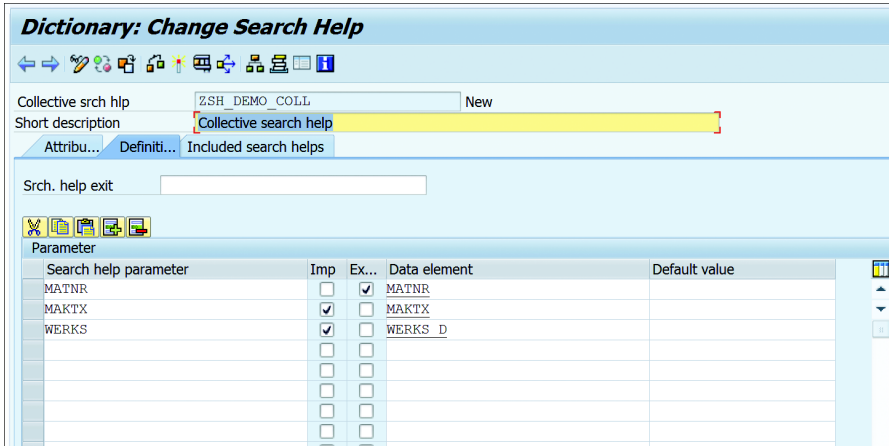

Figure 10.71 Collective Search Help Maintenance Screen
3. On the DICTIONARY: CHANGE SEARCH HELP screen (see Figure 10.71), enter the search help parameters and the corresponding data elements. Set the IMPORT and EXPORT flags for the parameters. Optionally, you can set a default value for each parameter.